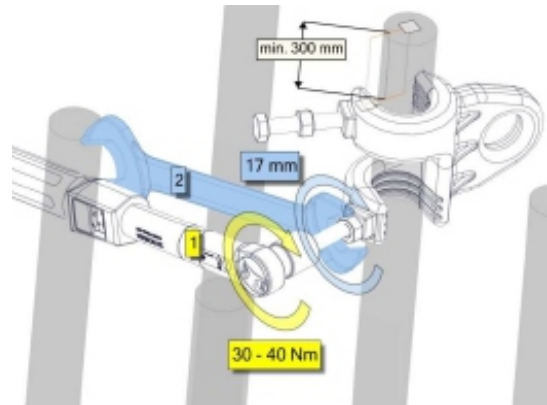

Figure 6. Installation of anchor point on bar
While holding anchor point AT187 tighten both mounting screws (Figure 6) using torque wrench (1) to 30-40 Nm. Then tighten lock nut to prevent the screw from unscrewing with use of flat wrench 17mm (2).